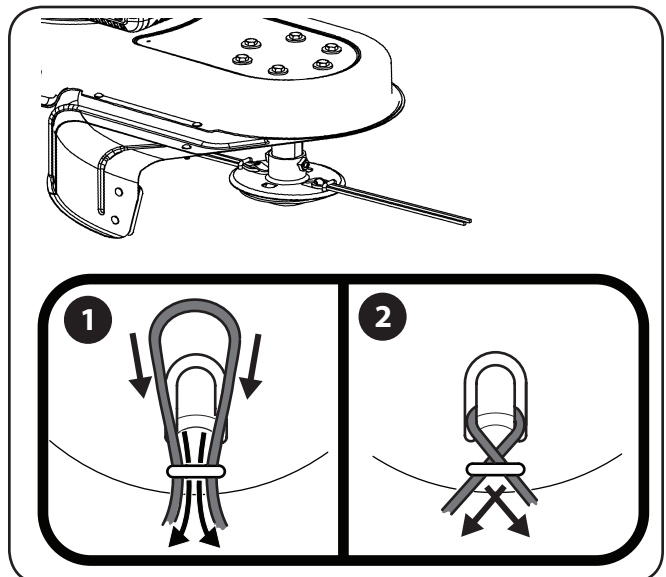

Figure 5-3
- Cross the line ends and pull each tightly to secure the trimmer line in place. See Figure 5-3.